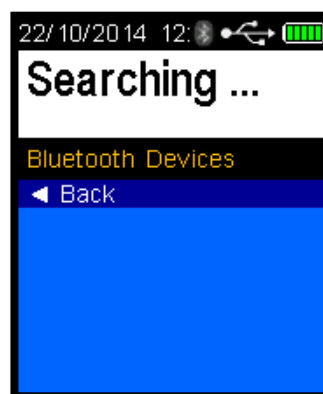

Figure 84 Searching Displayed
- Press the test key, the LE5 will search for the printer and display Searching ... (Refer Figure 84).